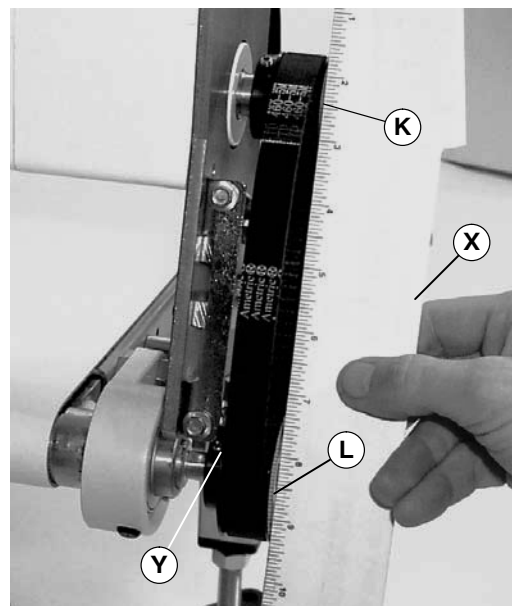

Figure 7
7. Using a straight edge (X of Figure 7), align driven pulley (L) with drive pulley (K). Tighten driven pulley set screws (Y).